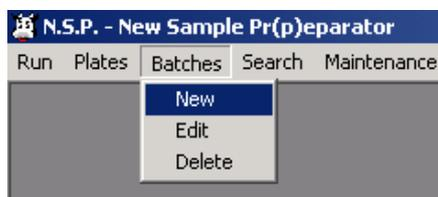

Fig. 6.1-1 : New reagent batch
- (1) Select “New” from the “Batches” menu (Fig 6.1-1).